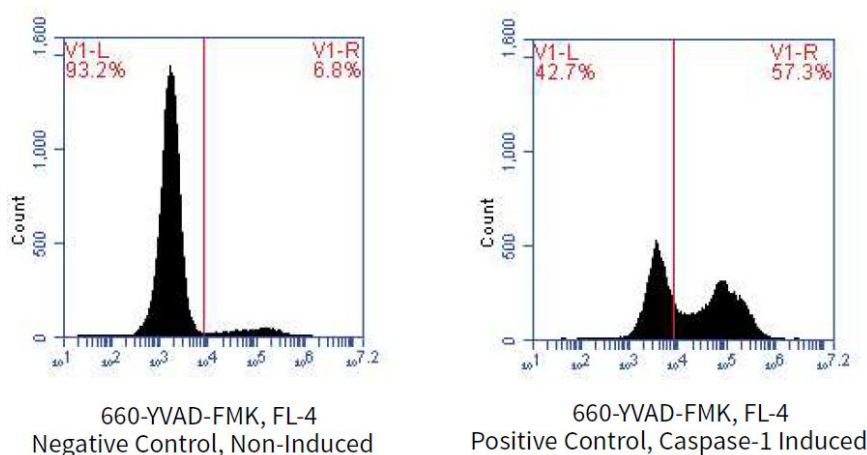

FIGURE 2: SINGLE COLOR ANALYSIS VIA FLOW CYTOMETRY
- (1) Resuspend cells in 300 μ L 1 x Cellular Wash Buffer (Section 10) and place on ice.
- (2) Run the unstained control. Generate a FSC vs SSC dot or density plot and gate on the population of interest. Adjust the voltages, if necessary, so that the cell population is easily distinguished.
- (3) For single-color analyses, use a 633 nm (peak emission) helium-neon ion laser or comparable >640 nm laser illumination source. Measure FLICA 660 emission on the FL-4 channel or with emission filters compatible with light emission between 680-690 nm.
- (4) Run single-color controls. Generate a histogram with the log FL-4 on the x-axis versus the number of cells on the y-axis. Caspase-negative (FLICA 660-) cells will fall within the lower log fluorescence output decades of the FL-4 x-axis; caspase-positive (FLICA 660+) cells will appear as a shoulder or as a separate peak on the right side of the negative peak histogram (Figure 2). Adjust the voltage on FL-4, if necessary, to ensure fluorescence is on scale and caspase positive and negative populations are distinguished.
- (5) For bi-color analyses, run each single-color control. Adjust compensation to remove spectral overlap from interfering FL channels. Depending on the instrument and the software used, compensation might be set within the instrument hardware before samples are run or within the software after data collection. When the data have been correctly compensated, the median fluorescence intensity (MFI) values in non-primary detectors of any given single-stained control sample should be the same as an unstained control sample (e.g., a FLICA 660 stained sample being read in FL-4 should have the same MFI in FL-3 as an unstained sample).
- (6) Run the experimental samples and analyze.